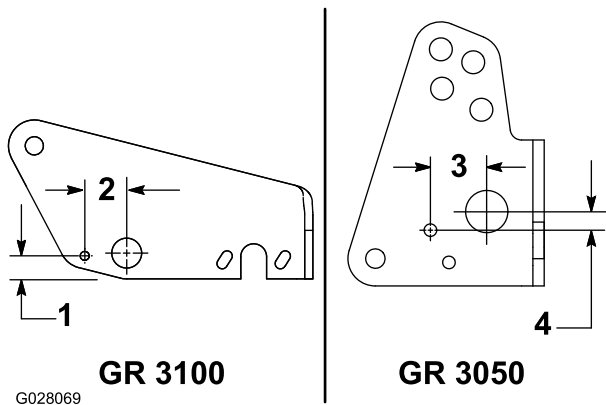

Figure 9
- A. Use the dimensions shown in Figure 9 to mark the frame.